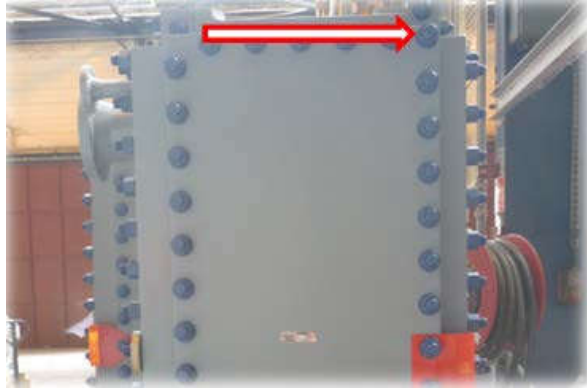

Figure 18
- Pre-tighten all nuts of “circling around the top of the unit” with an impact wrench (figure 18 & 19).